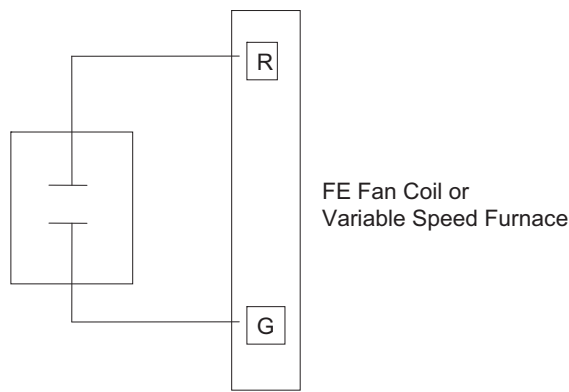

Fig. 26 - G Input Wiring for Blower Operation
- FAN - turns on fan to selected fan speed when G terminal is energized. See Fig. 26. This setting is used in conjunction with fresh air supply products (e.g. fresh air/make-up air dampers).
- FAN - turns on fan to selected fan speed when G terminal is energized. See Fig. 26. This setting is used in conjunction with fresh air supply products (e.g. fresh air make-up air dampers).